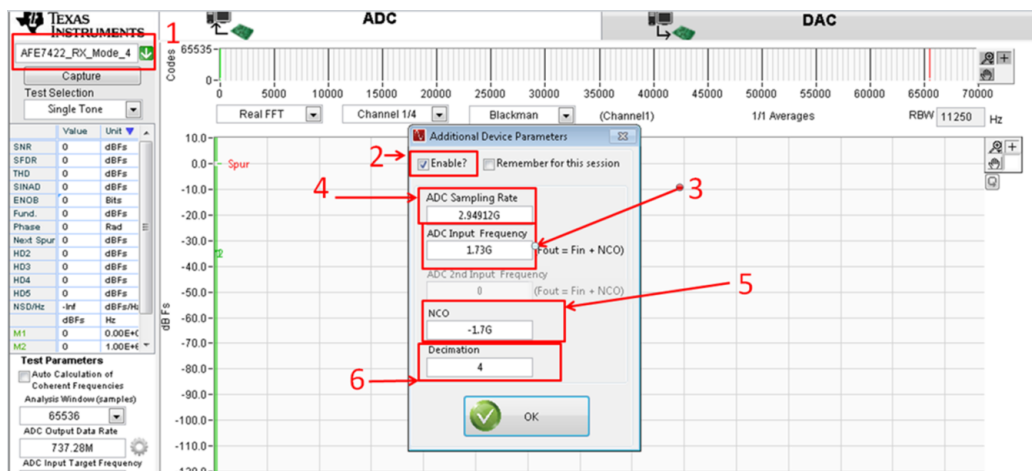

Figure 21. HSDC Pro ADC Settings
1. Switch back to the HSDC Pro window, select the ADC tab, and select the *AFE74xx\_RX\_Mode\_4* file, shown as label 1 in Figure 21.
- a. Check the enable box (label 2 in Figure 21)
- b. ADC Sampling Rate = 2.94912G (label 3 in Figure 21)
- c. ADC Input Frequency = 1.73G (label 4 in Figure 21)
- d. NCO = -1.7G (label 5 in Figure 21)
- e. Decimation = 4 (label 6 in Figure 21)
5. Click the *Capture* button located below the displayed ini file in Figure 21)